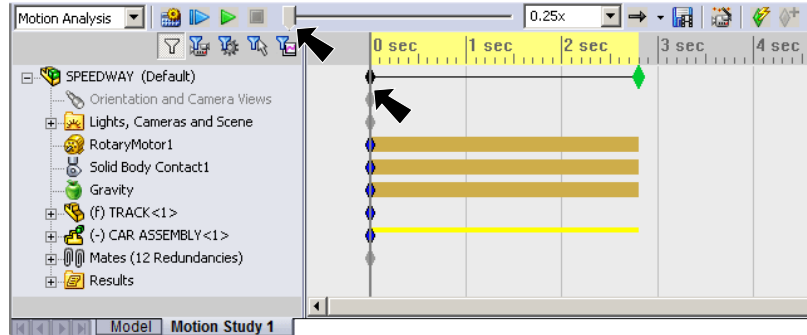

Fig. 1
Step 1. **Rewind Motion Study to 0 seconds.** To rewind, either **drag the Play Head** back to the beginning in the Motion Manager toolbar or **drag the Time Bar**, the gray vertical line back to 0 in the Timeline, **Fig. 1.**